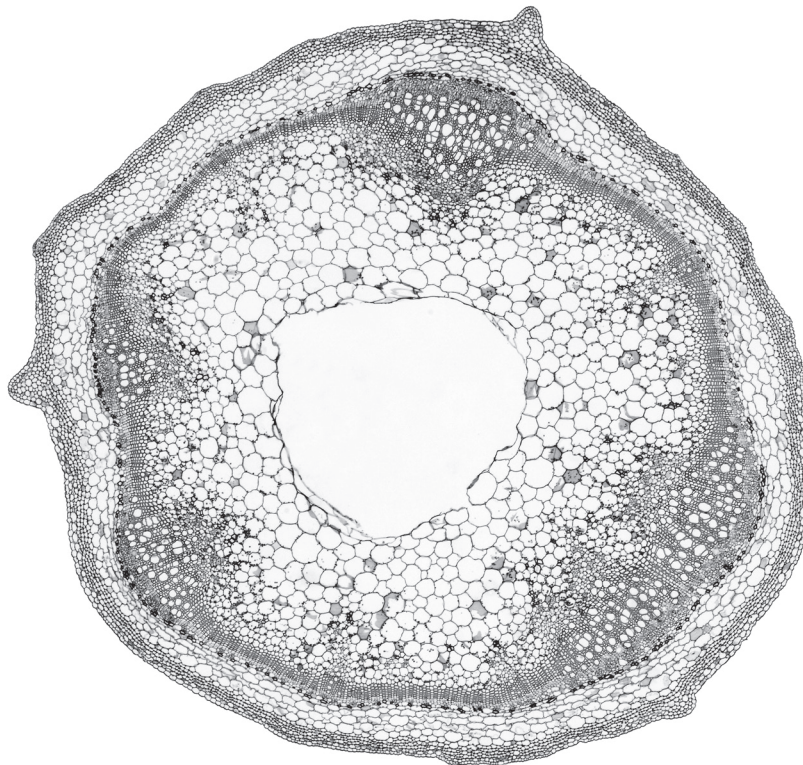
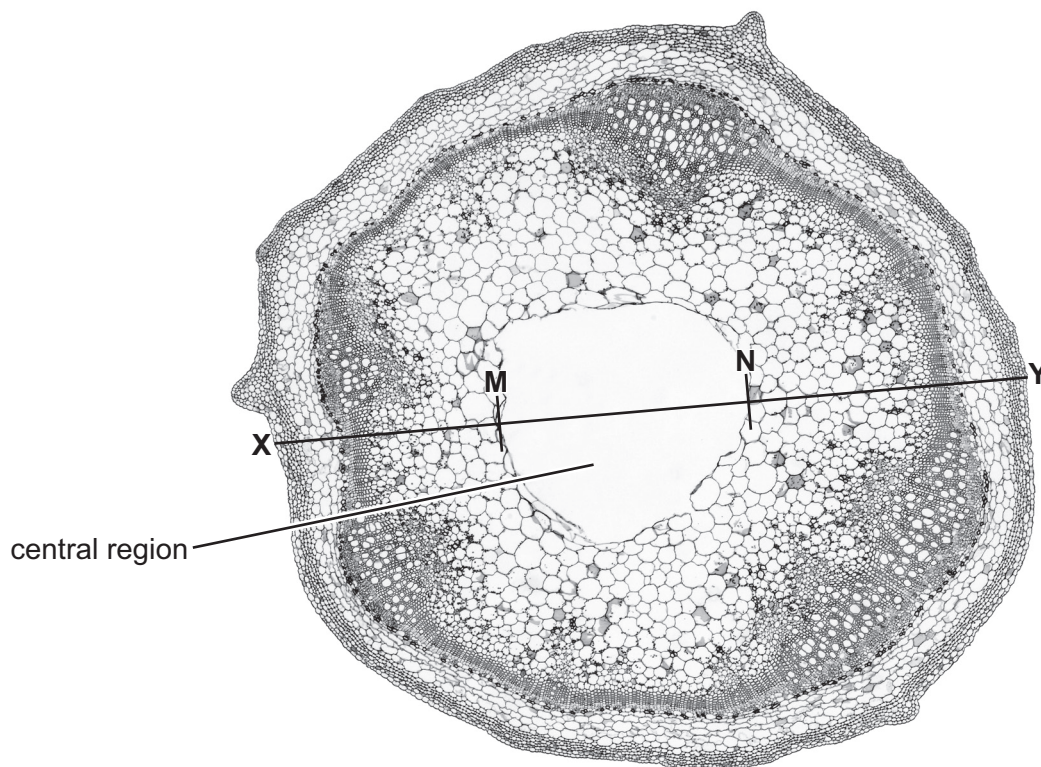

Figure 2.1
Figure 2.2
- (b) Figure 2.1 is a photomicrograph of a stained transverse section of a different organ from a different plant.
- (i) Identify **three** observable differences, other than colour, between the section on **L1** and the section in Figure 2.1.
- (ii) Use your observations in **2(b)(i)** to identify the type of plant organ on **L1** and the type of plant organ in Figure 2.1.
plant organ in Figure 2.1
- (c) Figure 2.2 is the same photomicrograph as that shown in Figure 2.1.
In Figure 2.2: